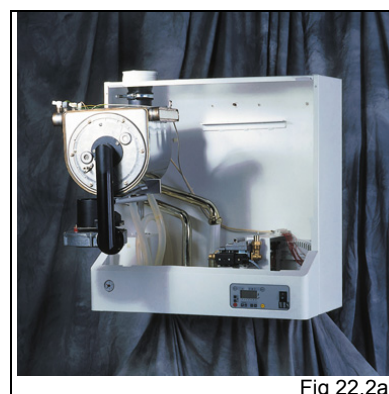

Fig 22.2a
- e) **Streamline 75 ONLY**, Undo the long Hexagon Bar at the top of the Heat Exchanger and gently rotate the heat exchanger forward, pivots to the left, See Fig 22.2a.